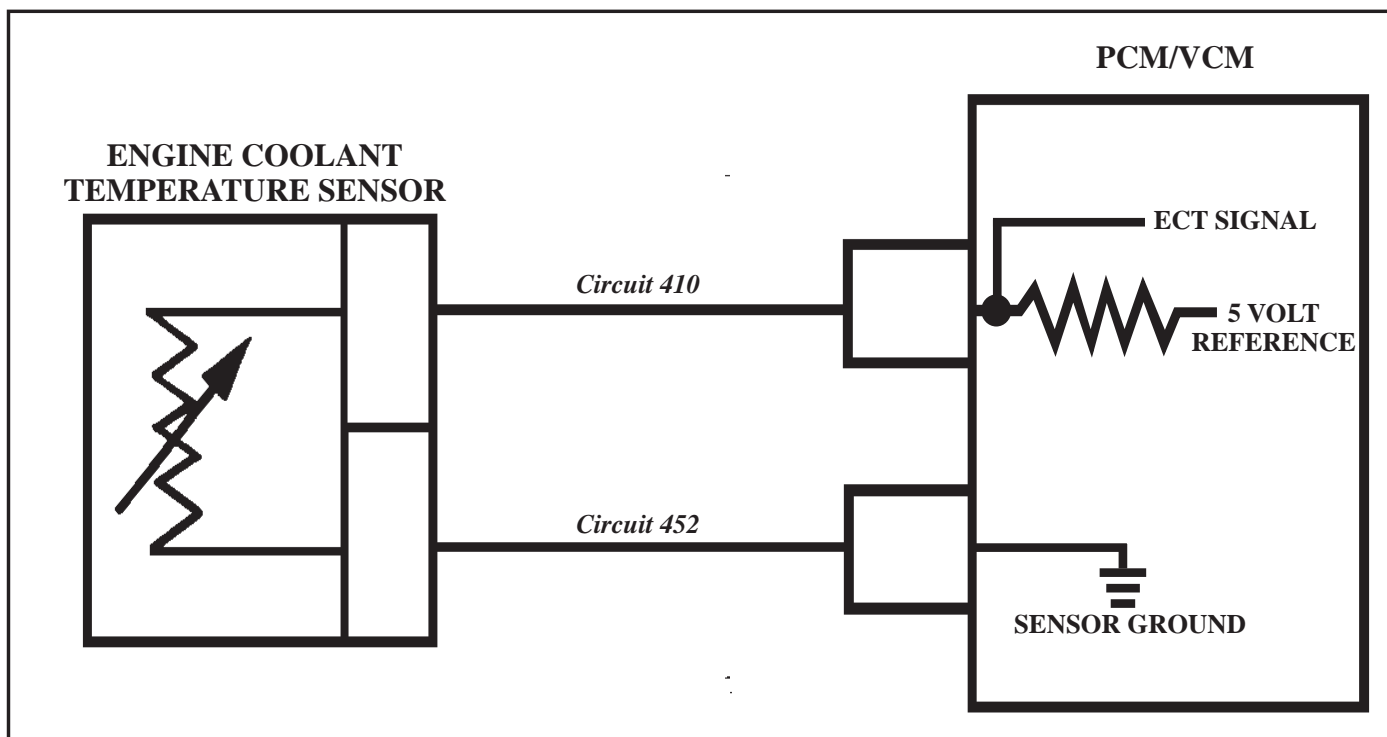

Figure 40
- Engine temperature signal wire, Circuit 410, is shorted, (Refer to Figure 40).
- ECT Sensor Signal Wire, Circuit 410, is Open, (Refer to Figure 40).
- ECT Sensor Ground Circuit 452 is Open, (Refer to Figure 40).
- Check the ECT Sensor Ground Circuit 452, as shown in Figure 40. It should not have more than 0.2 volts with the engine running.
- Check the signal wire, Circuit 410, for 5 volts (Refer to Figure 40) when disconnected from the sensor and the ignition "ON".